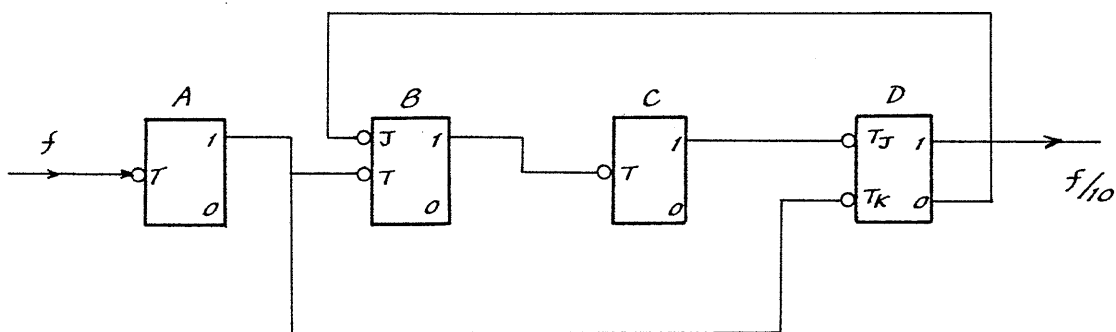

Fig. 4-8
The 8-4-2-1 code counter has four FF stages connected in cascade, as shown in Fig. 4-8, to compose a decimal counter through feedback from FF (D) to terminal J of FF (B). Table 4.1 shows the output of each FF.